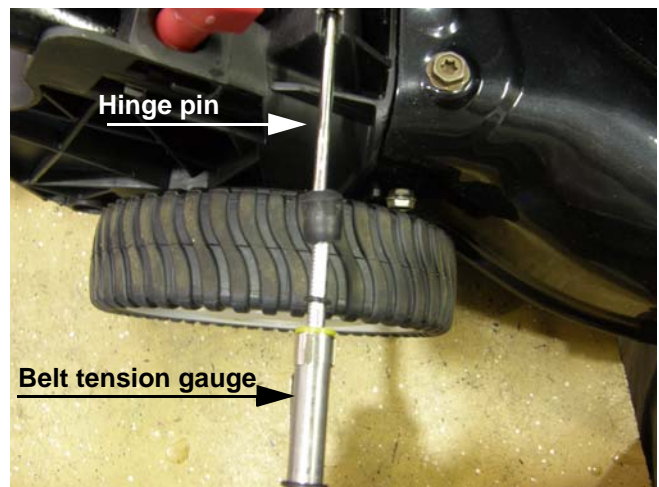

Figure 4.15
9. Insert the hinge pin from the right-hand side. See Figure 4.15.
- It should take roughly 15 lbs. (6 kg.) of force to push the pin. If it is significantly looser, consider replacing the complete rear subframe and grass door assembly. See Figure 4.15.